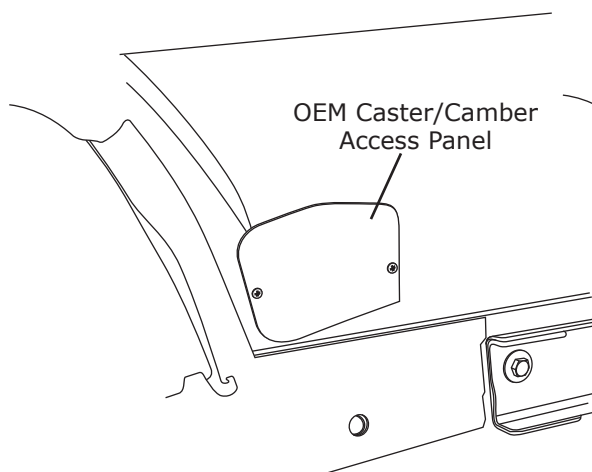

Figure 12
1. Remove OEM caster/camber access panel from passenger side wheel well (discard) (See Figure 12, below).